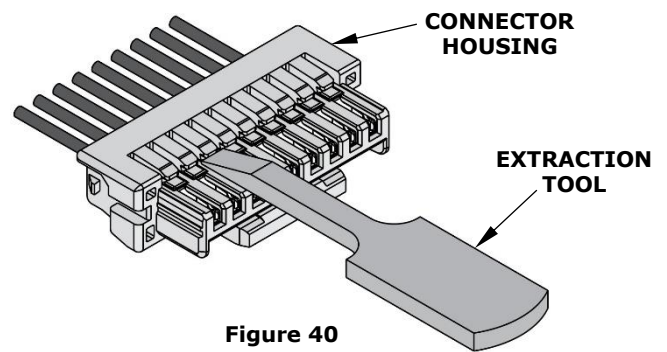

Figure 40
5. With the TPA removed, there will be more room for the terminals, allowing them to sit lower inside the connector. Position the extraction tool as shown in Figure 40.